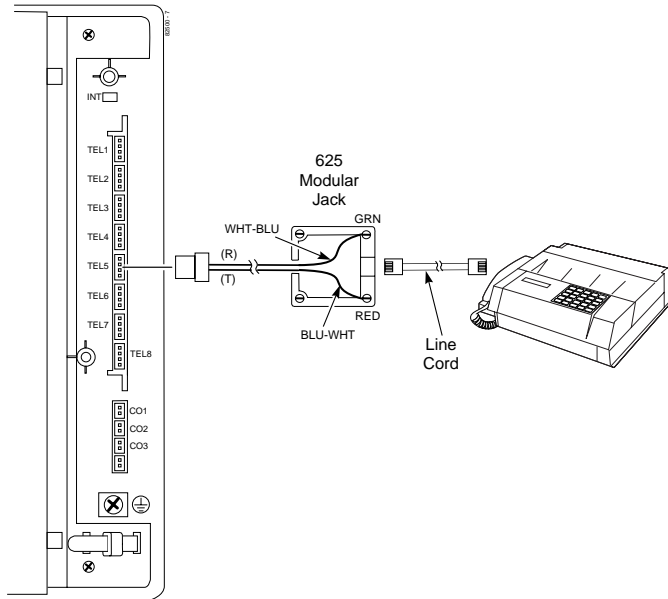

Figure 4-13 CONNECTING THE FAX UNIT
Fax Connections (3FAXU) (Figure 4-13)
1. The connection from the modular jack to the CPU requires only one pair, but the DDK connector must a 4-pin connector. The wires should be connected to the tip and ring. Refer to Figure 4-13 for the wiring of the DDK connector.